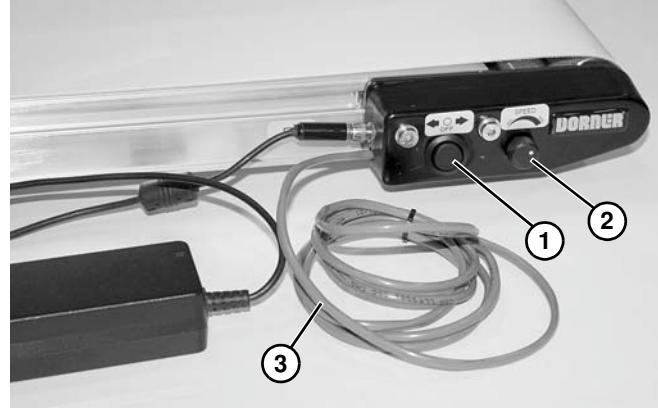

Figure 16
2. Select conveyor running direction with directional switch (**Figure 16, item 1**).
3. Select conveyor speed with speed control knob (**Figure 16, item 2**).
4. Remote start/stop cable (**Figure 16, item 3**) comes with wire nut over remote leads to allow test running conveyor.
6. Select conveyor running direction with directional switch (**Figure 16, item 1**). If Dark-On operation is selected, temporarily block photo eye to energize conveyor.
7. Select conveyor speed with speed control knob (**Figure 16, item 2**).